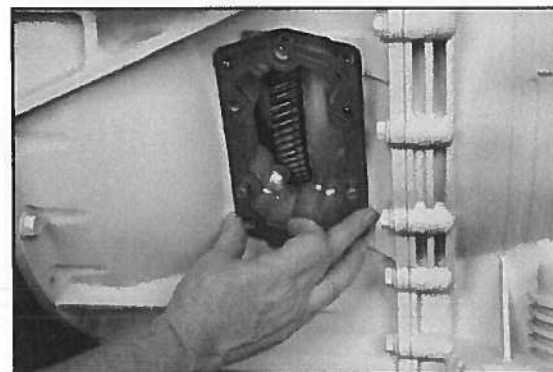

Fig. 13
5. Install the special gasket over the guide pins. The ribbed surface should face outward, toward the installer (**Fig. 13**).